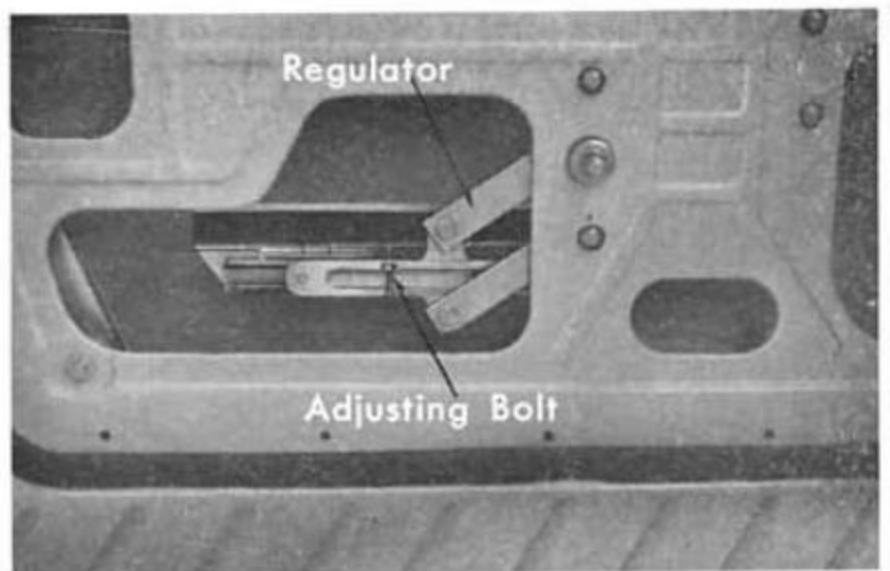

Fig. 17C-3
8. Position the door glass level with the door panel before tightening the regulator (Fig. 17C-4).